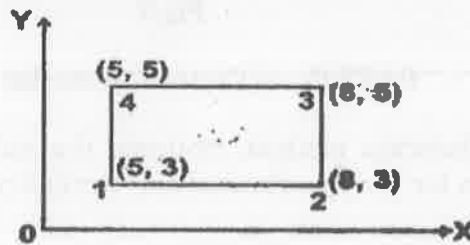

Fig. 5
- (b) For a 4-noded rectangular element shown in Figure 5, estimate the temperature point (7, 4). The nodal values of the temperatures are $T_1 = 42^\circ\text{C}$, $T_2 = 54^\circ\text{C}$, $T_3 = 56^\circ\text{C}$ and $T_4 = 46^\circ\text{C}$. Also, determine the 3 Points on the 50°C contour line.